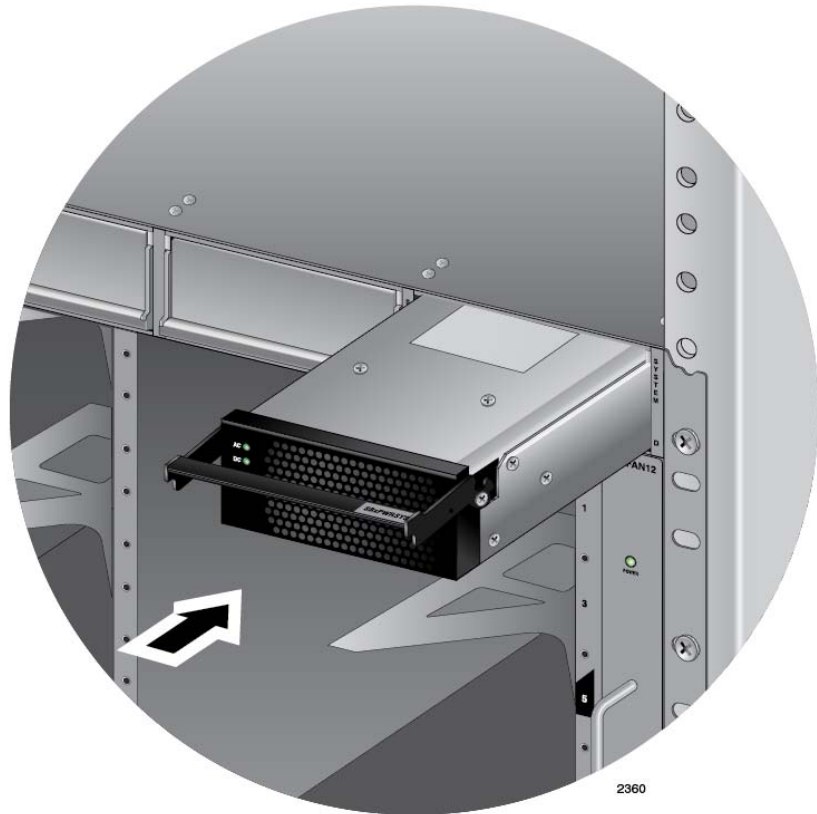

Figure 53. Inserting the AT-SBxPWRSYS1 AC Power Supply
6. Align and insert the AT-SBxPWRSYS1 AC Power Supply into the power supply slot. Figure 53 on page 99 shows the power supply being installed in slot D.